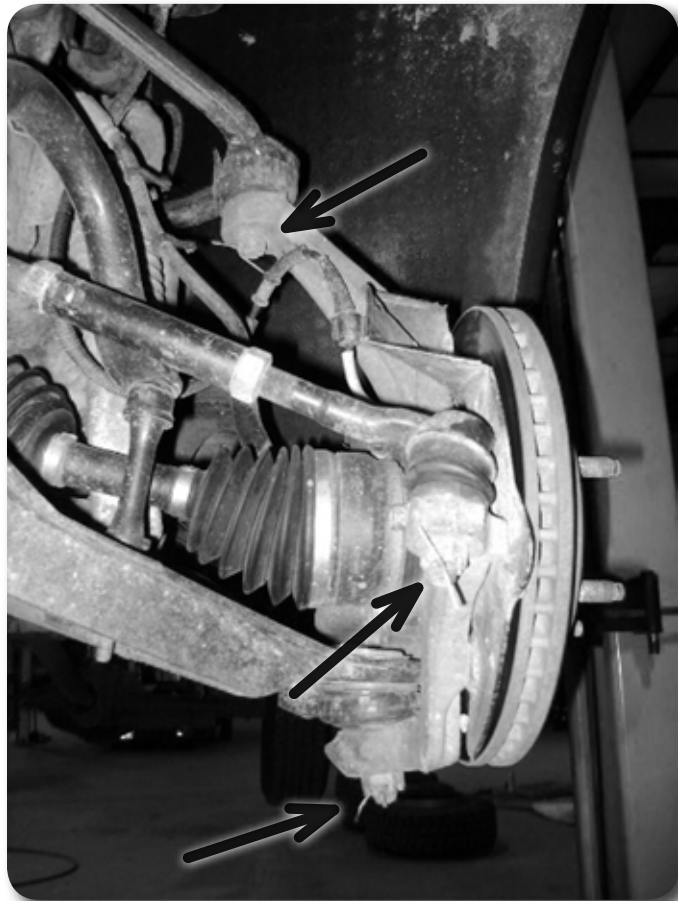

Figure 3
13. Disconnect the tie rod end from the steering knuckle. **Figure 3** Remove the nut. Strike the steering knuckle with a hammer near the tie rod end to release the taper. Remove the tie rod end and save the nut.
20. Remove the upper and lower ball joint cotter pins and nuts **Figure 3** and reinstall a few turns. Strike the knuckle near the upper and lower ball joints to dislodge the joints from the knuckle.